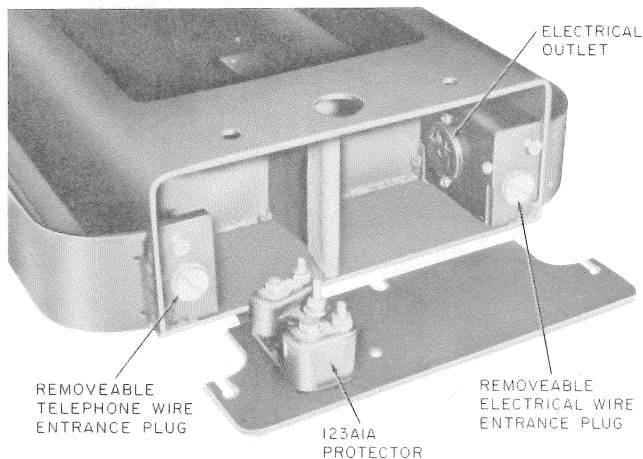

Fig. 12—KS-20842, List 42 Wall Mounting (Bottom View)
2.32 When the List 31 housing is installed as a wall unit, the electrical service connections may enter from the bottom or top of the List 42 wall mounting (Fig. 12 or 13).
2.33 The power wiring may enter the List 42 wall mounting through a removable plug at the bottom or top right side of the mounting (Fig. 12 and 13). If entry is at the bottom, connections are made directly to the outlet which is located under the movable bottom plate (Fig. 12). At the top, the wiring follows a 3/4-inch conduit pipe located on right side to the outlet. At indoor or sheltered locations the housing on the wall
2.36 The telephone wiring for a List 42 wall mounting terminates on the 123A1A protector located on left side under removable wall mounting bottom plate (Fig. 12). The wiring may enter the mounting through conduit located at top or bottom of the mounting, or through a wall entrance in back of the mounting.